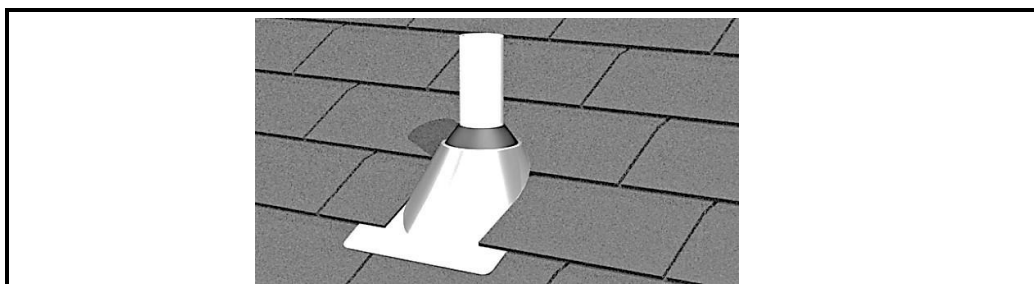

FIGURE 6.4
- 6.4 FIGURE 6.4 shows a ventilation pipe that protrudes above a roof. Name TWO factors which must be considered before the installation of the pipe. (2 x 1) (2)